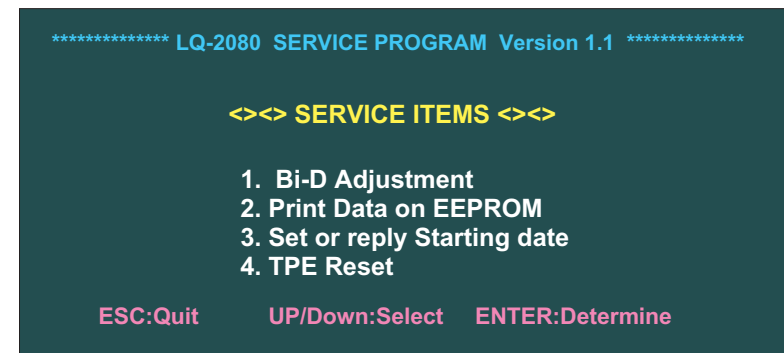

Figure 4-4. Main Menu Screen
- Select “TPE Reset” in the main menu screen (Figure 4-4) and press the Enter key. The screen below appears.